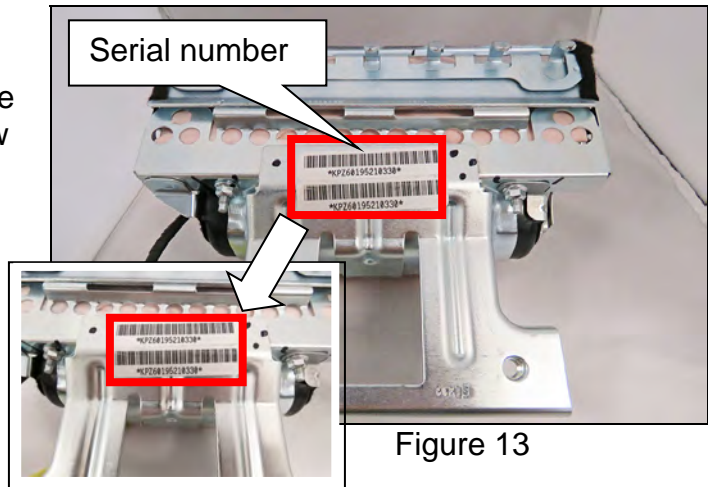

Figure 13
- The serial number will automatically populate (see Figure 13).